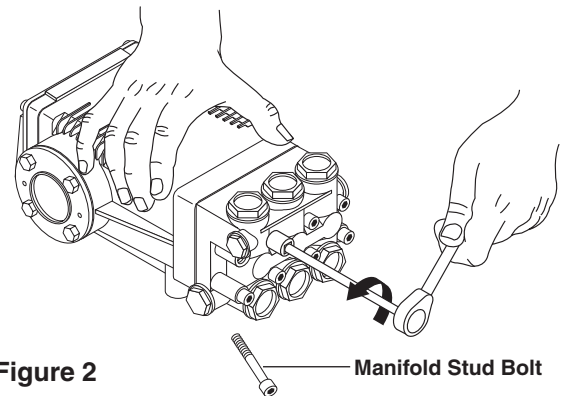

Figure 2
1. Remove the manifold stud bolts (Figure 2). Make sure bolt washers are in place.
1. Remove manifold from crankcase. (Figures 2 & 3). Many times the packing assembly complete will stay on the plunger. If not, use your thumb, finger or extractor to remove packing assembly from pump manifold cavity.